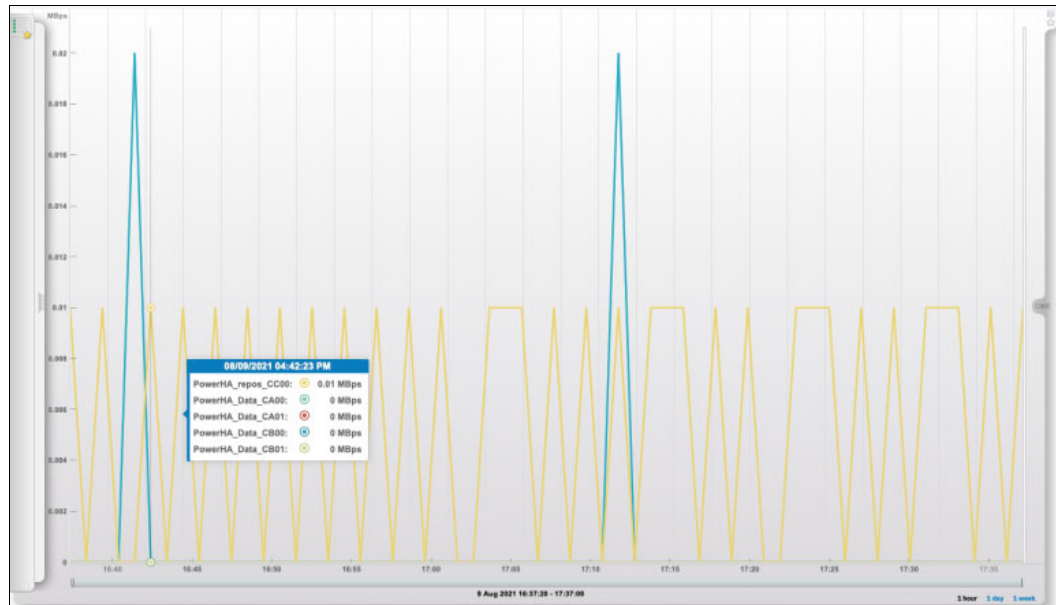

Figure 9-123 Volume performance graph
4. Draw the graph. Figure 9-123 shows the bandwidth graph for a set of five volumes.